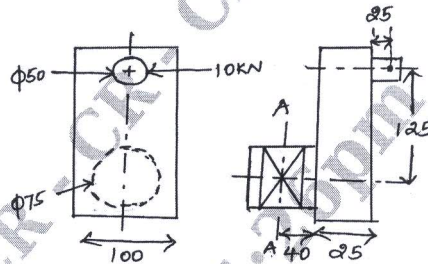

Fig.Q1(c)
- c. Determine maximum normal stress and maximum shear stress at section A - A for crack pin as shown in Fig.Q1(c) when a load of 10 kN is assumed to be concentrated at centre of crank pin.